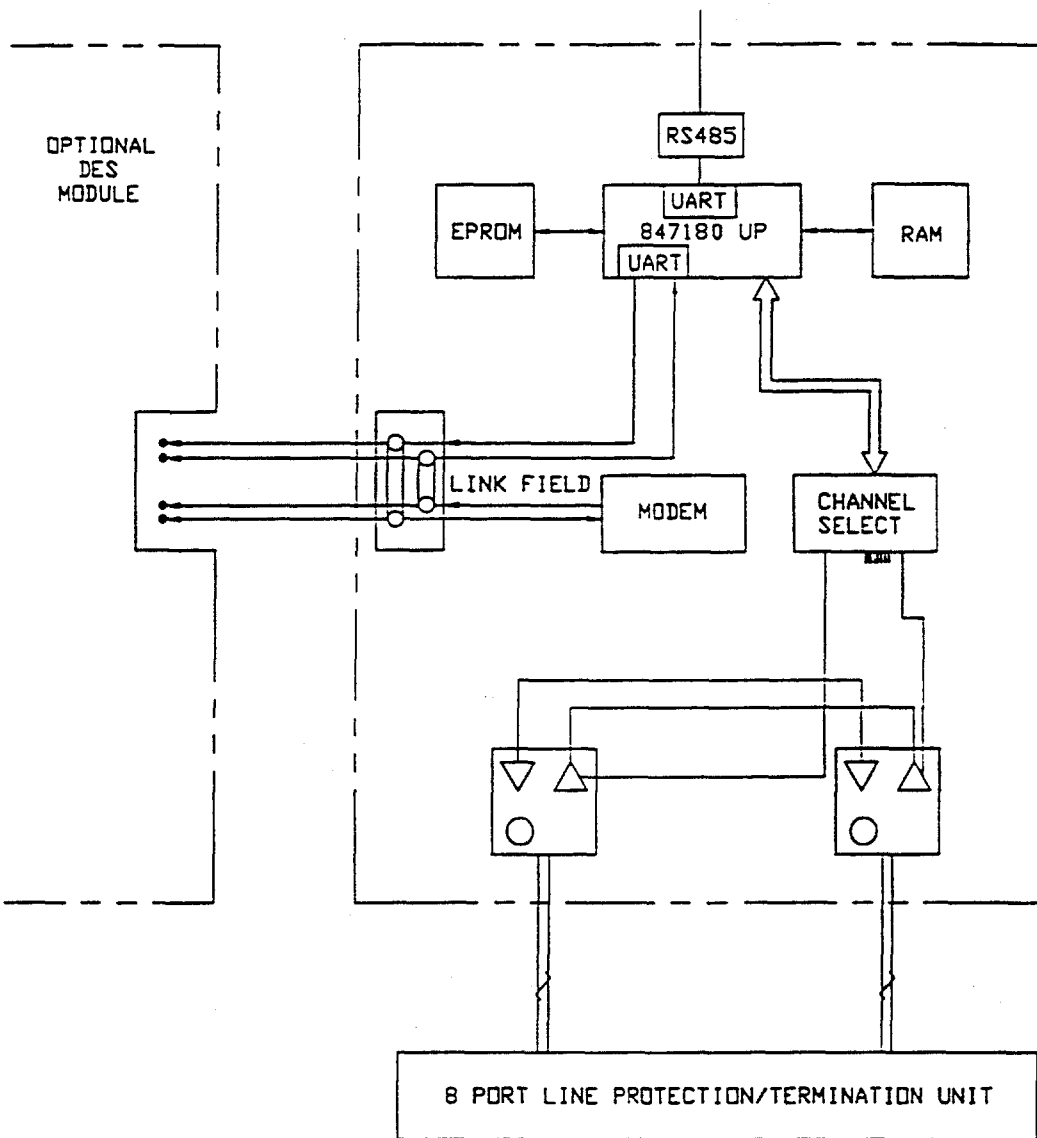

Figure 1-25. ICIDS Intelligent V.F. Multiplexer-General Block Diagram
d. Intelligent Audio Multiplexer. Figure 1-25, the ICIDS Intelligent Audio Multiplexer General Block Diagram, shows more detail of the Audio Multiplexer unit. This unit is more frequently used than the RS485 or Fiber Optic interfaces. Each multiplex unit uses a 647180 micro-processor and through one of its UART ports polls the 8 lines associated with this particular unit. Because of the built in intelligence, this unit selects the desired line among the 8 lines to listen for an answer to the broadcast poll, thus eliminating reception from all lines in the group except the desired line. This method is subject to far less noise because it concentrates on just one line of the 8. Thirty-two of these multiplex units are polled for their data by the Data Communications Expander on the CPU. The DCX will poll the multiplex unit at 9600 baud, while the multiplex unit has a selectable baud rate of up to 19.2 baud. It polls the RADDC at 1200 baud. This will enhance the performance and timing over the previous system. The DES module option and the link field indicate how the DES module can be added to a group of 8 multiplexed lines. In addition to the standard data collection from the remote locations, the communication support subsystem through these same multiplex units will also pass all access control card information and access data as required. CCTV command messages will also pass through the same system.